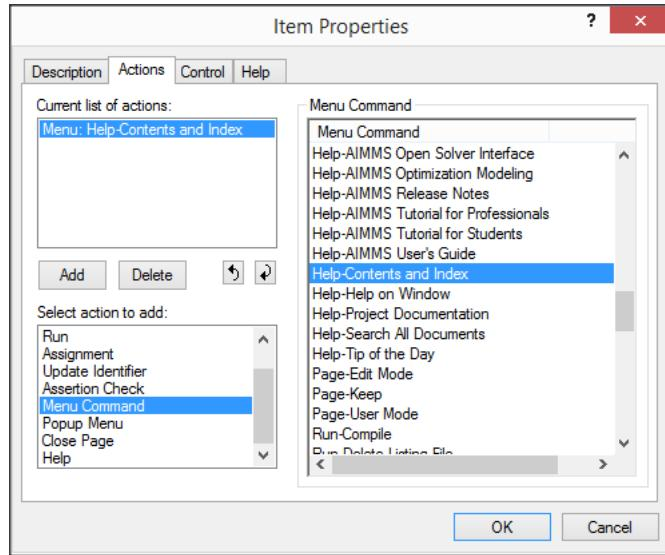

Figure 13.13: The **Action** tab of the **Menu Properties** dialog box
- ▶ select the ‘Help-Contents and Index’ entry (see Figure 13.13), and